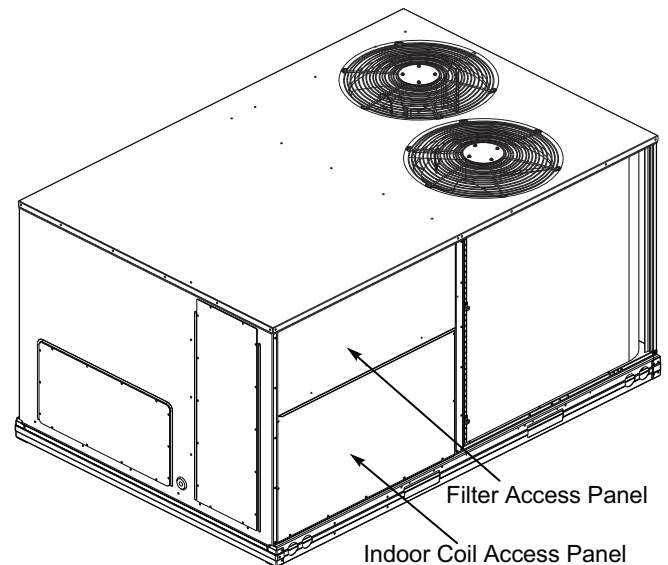

Fig. 2 — Filter Access View
2. Remove the existing unit filter access panel. Raise the panel and swing the bottom outward. The panel is now disengaged from the track and can be removed and discarded. (See Fig. 2.)
3. Remove the indoor coil access panel and discard. (See Fig. 2.)